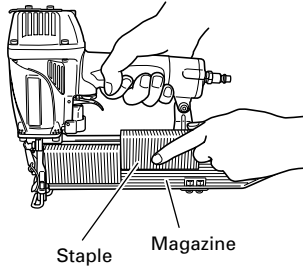

Fig. 3
- (2) Place the staple strip over the magazine. Make sure that the staple strip slides freely on the magazine. (See Fig. 3)